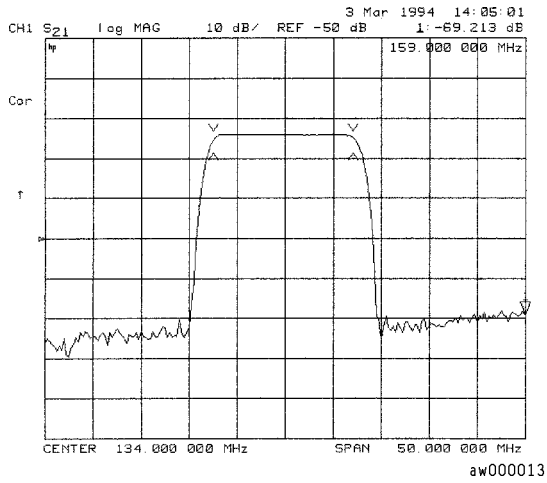

Figure 10-5. Example Single Points Limit Line
- 2 To designate a single point limit line, as shown in Figure 10-5, you must define two pointers;